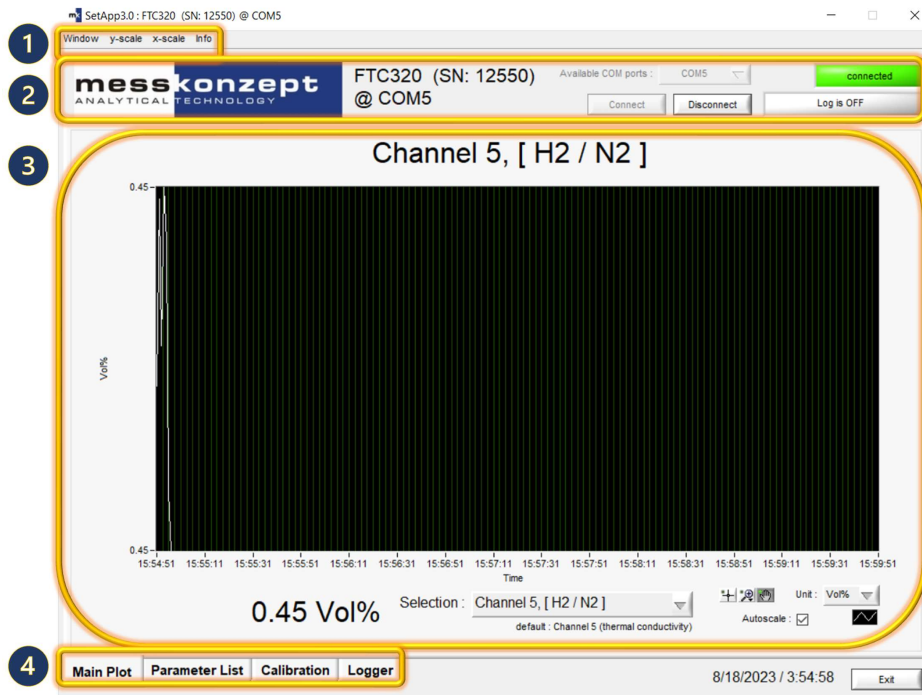

Figure 2: The basic interface.
2. **The status banner:** Once a device is connected to SetApp, the following information appears in the banner (see Figure 2):